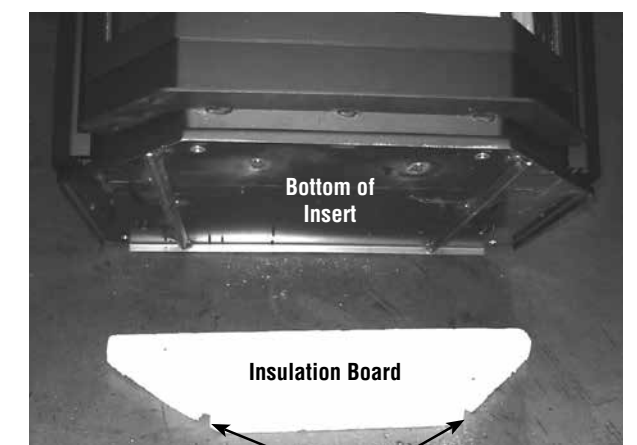

Figure 52
3. Set the insert on the insulation board. Now that the insert is level, place your insulation board in place where the insert will be installed and set the PI40GL insert over the insulation board so the two front leveling legs line up with the two cut-outs in the front of the insulation board (see **Figure 52**). Your PI40GL heat kit is now installed.